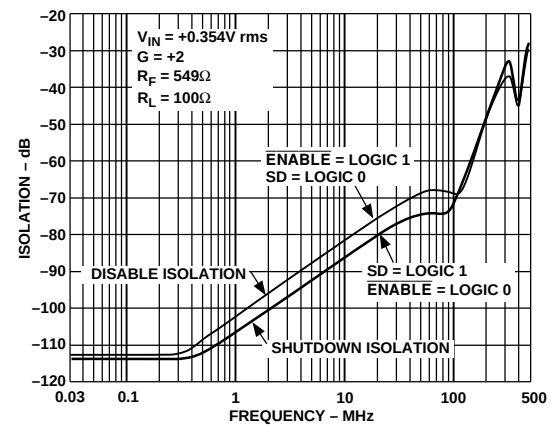

Figure 14. AD8174R Disable and Shutdown Isolation vs. Frequency
7AD8174 only. Shutdown (SD) pin is grounded. Mux is disabled, (i.e.,  $\overline{\text{ENABLE}} = \text{Logic 1}$ ) and all inputs are driven simultaneously with  $V_{IN} = 0.354$  V rms. Output is monitored at  $f = 5$  MHz and 30 MHz;  $R_L = 100$  Ω. In this mode, the output impedance of the disabled mux is very high (typ 10 MΩ), and the signal couples across the package; the load impedance and the feedback network determine the crosstalk. For instance, in a closed-loop gain of +1,  $r_{OUT} \approx 10$  MΩ, in a gain of +2 ( $R_F = R_G = 549$  Ω),  $r_{OUT} = 1.1$  kΩ (see Figure 14).
8AD8174 only.  $\overline{\text{ENABLE}}$  pin is grounded. Mux is shutdown (i.e., SD = Logic 1), and all inputs are driven simultaneously with  $V_{IN} = 0.354$  V rms. Output is monitored at  $f = 5$  MHz and 30 MHz;  $R_L = 100$  Ω. (see Figure 14). The mux output impedance in shutdown mode is the same as the disabled mux output impedance.